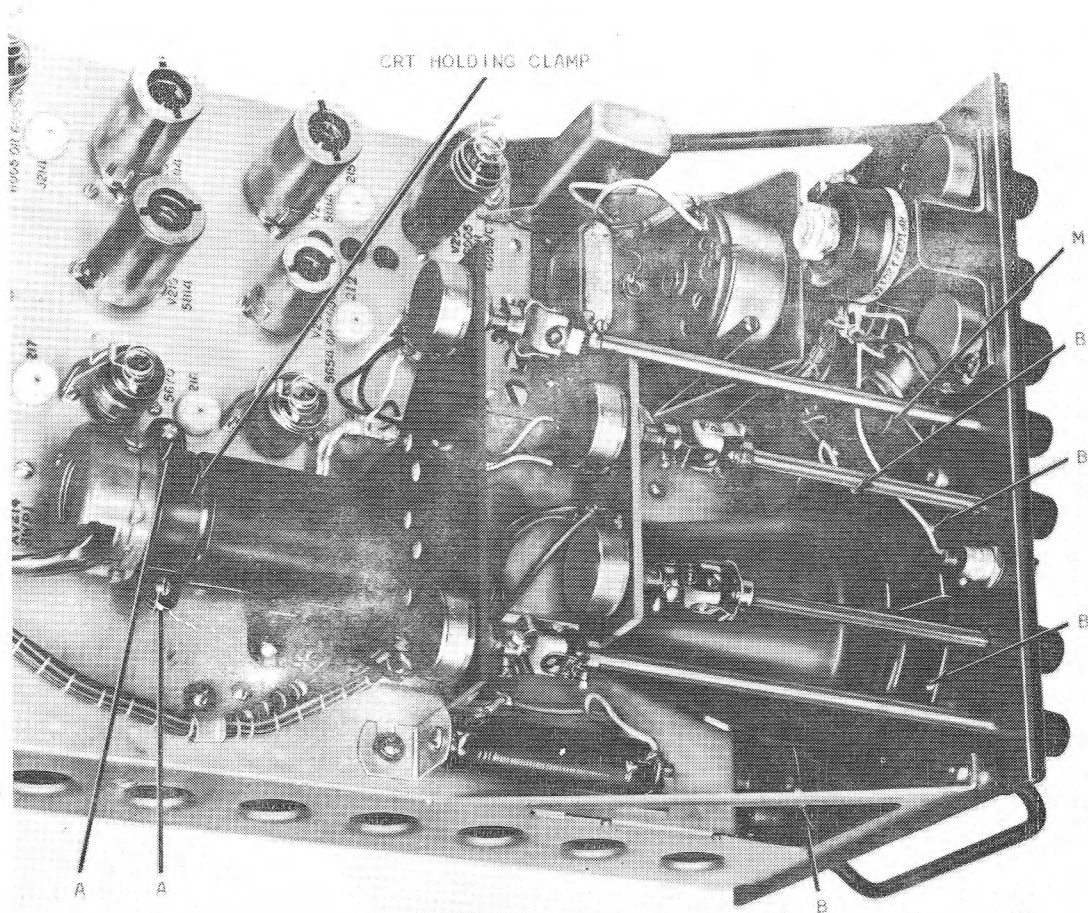

Figure 6-4. Azimuth Indicator IP-243/ALA-6, Cathode-Ray Tube Mounting Detail
Step 2. A projection of the pilot lamp mounting (M, figure 6-4) projects under the lip of the plate behind the bezel, and is held there by screws "B" (figure 6-4). Loosen these screws slightly and withdraw the pilot lamp bracket.
Step 5. Remove screws "A" and clamp (figure 6-4) from neck of CRT.